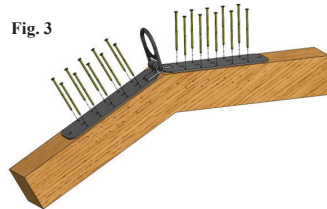

Fig. 3
- **Nail fastening:** This anchor can be fitted with 20 galvanised 4.2 x 90 mm nails (included). This means that the anchor point has been tested and is compliant with the requirements of EN 795:2012 type A. Fastening with nails (which cannot be dismantled without damaging the structure) means that the anchor point is not in compliance with EN 795:2012 Type A. (fig. 3).